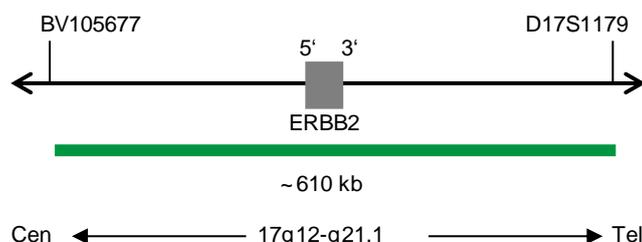

Fig. 1: ERBB2 Probe map (not to scale)
- ZyGreen (excitation 503 nm/emission 528 nm) labeled polynucleotides (~10.0 ng/μl), which target sequences mapping in 17q12-q21.1* (chr17:37,572,531-38,181,308) harboring the ERBB2 gene region (see Fig. 1).